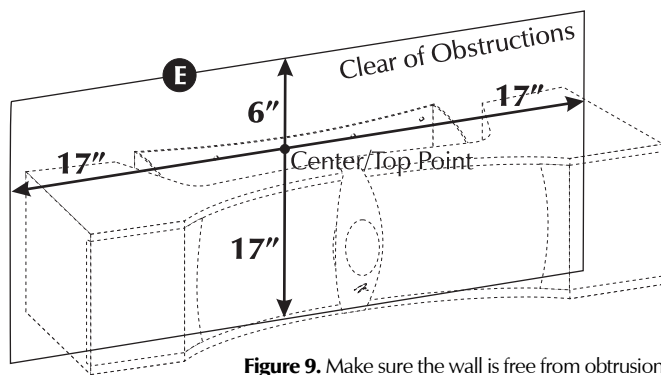

Figure 9. Make sure the wall is free from obstructions.
- 6 Locate and mark the center point where you would like the top of the Cinema i. Measure 17 inches horizontally in each direction from the center point. This area must be clear of obstructions in order to mount the Cinema i. Also, make certain there will be at least 6 inches of clearance above the center point and 17 inches below in order to install the knobs and tilt the speaker up or down (figure 9, step E).